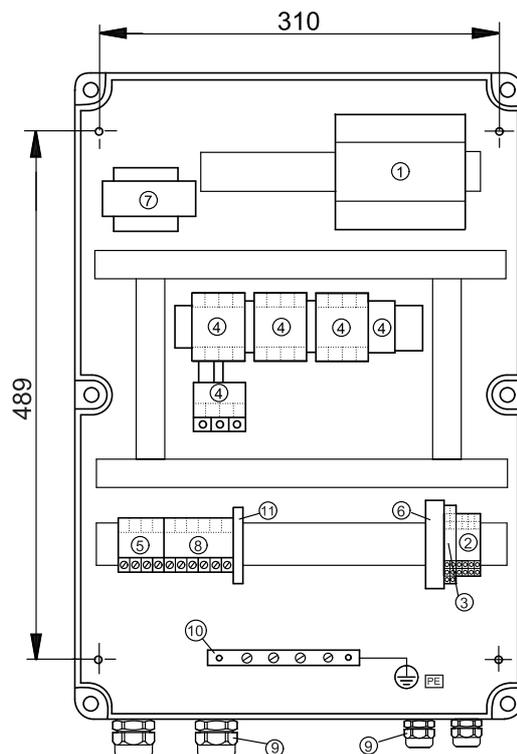

Fig. 3
- with four screws through the mounting holes in the back plate of the cabinet, see fig. 3. The mounting holes must be bored with a 4 mm bore. Fit the screws into the mounting holes and tighten securely. Fit the plastic caps supplied with the controller on the screws (IP65).
Figure 3 shows the *internal* construction of the LC 108 for star-delta starting.
Key to the symbols in figs 3 and 4: